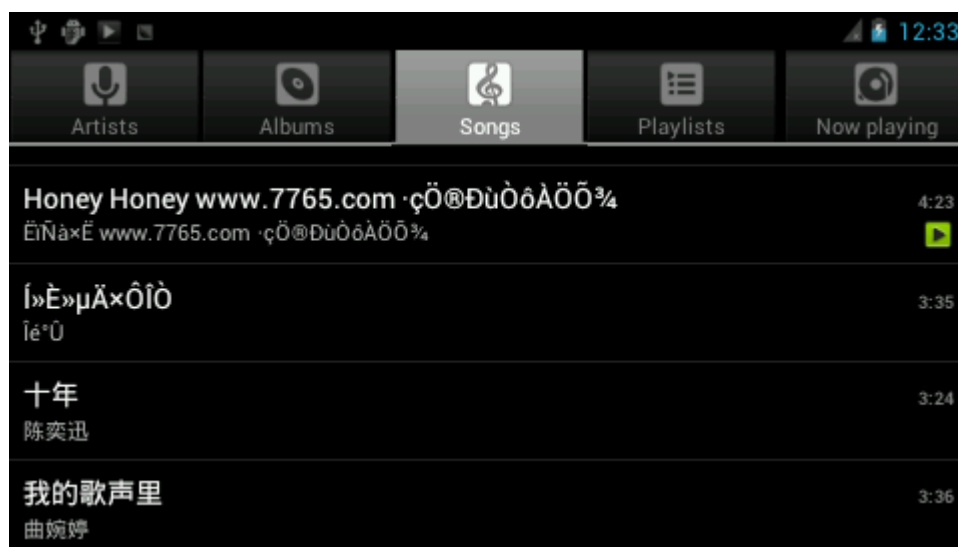

Figure 4-19
(2) Select "Songs" option. Refer to figure 4-19: